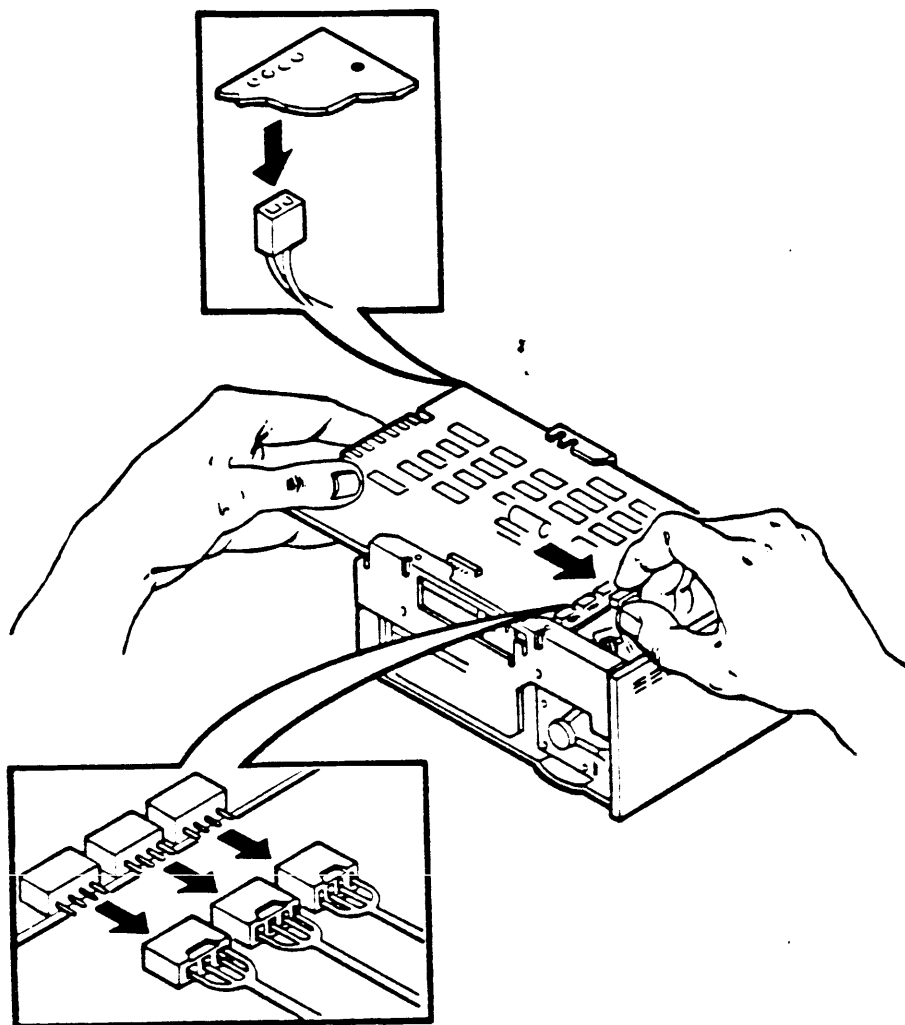

Figure 8-9 RD51 Disk Drive Connectors P6, P7, P8, and P4
4. Disconnect connectors P6, P7 and P8 from the front of the read/write printed circuit board (Figure 8-9).